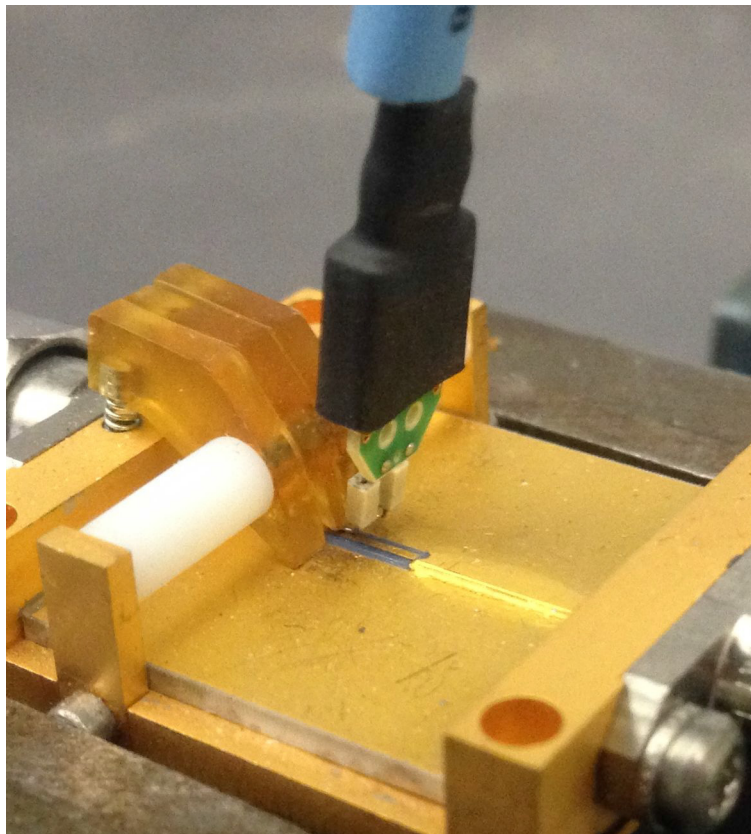

Figure 94 Close-Up of Tip Wires Positioned Under Pincher
- c Depress the actuators on the pincher and carefully insert one wire under the center pincher and the other wire under one of the side pincher. Either polarity of the probe can be tested and will yield the same results (but opposite phase) if the probe is working properly. **Figure 94** on page 122 shows a close up of the tip wires positioned under the pincher.